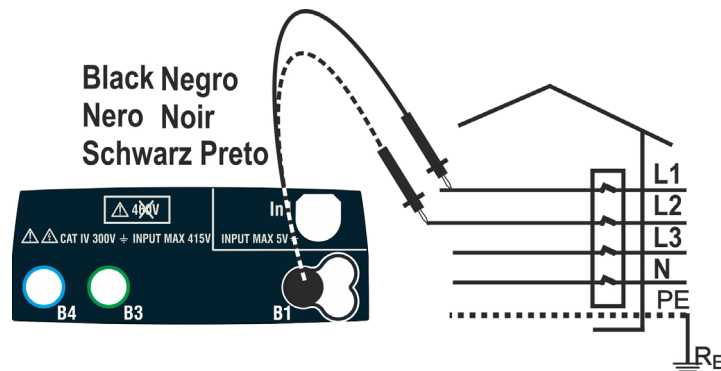
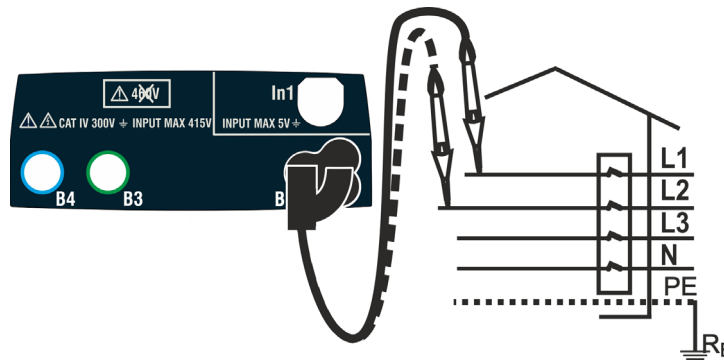

Fig. 35: Phase sequence check with test leads
Fig. 36: Phase sequence check with remote switch probe
2. Insert the black lead connector into the corresponding input B1 of the instrument. As an alternative, use the single cable and apply the relevant alligator clips to the free ends of the cables. It is also possible to use the remote switch probe by inserting its multipolar connector into the input B1. Connect the alligator clips or the remote switch probe to the electrical mains according to Fig. 35 or Fig. 36.
5. Under these conditions, connect the alligator clips, the tips or the remote switch probe to phase L2 in accordance to Fig. 35 or Fig. 36.